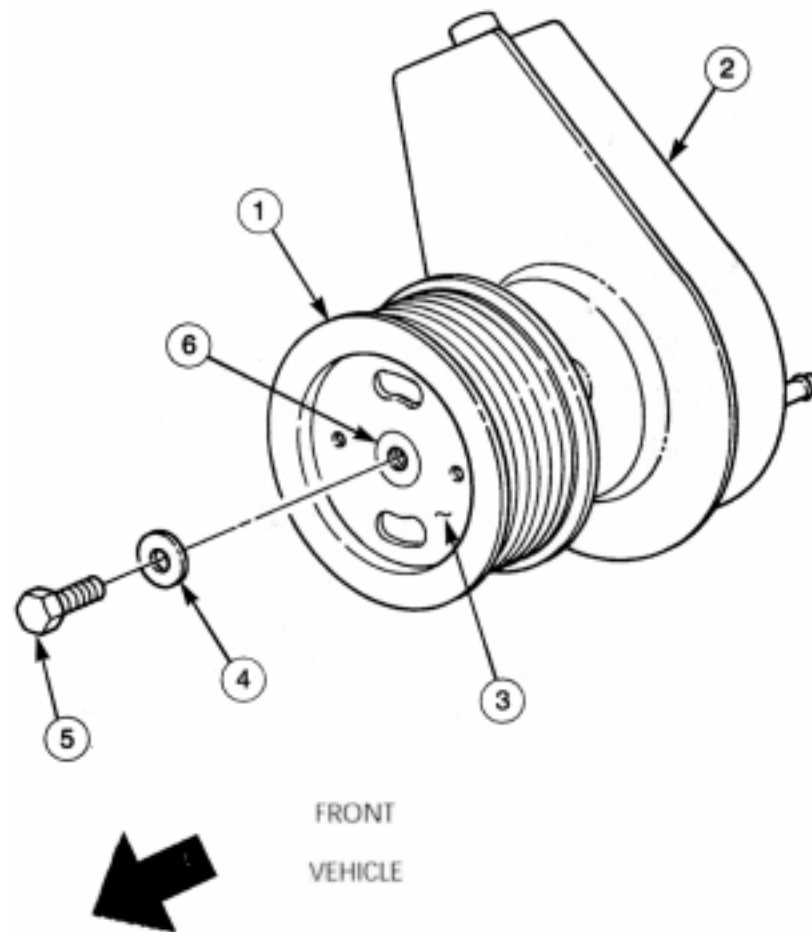

Figure 8
4. Ensure power steering pulley (1) was installed on power steering pump (2) with flat surface (3) facing toward front of vehicle as shown in figure 8. Remove screw (5) and washer (4) and ensure power steering pulley (1) was installed flush with end of shaft (6) as shown in figure 8.
5. If power steering pulley (1) is not flush with end of shaft (6), use pulley installer to move power steering pulley (1) into position. If power steering pulley (1) will not move to flush position, remove pulley (1) and check for scoring on pulley (1) or shaft (6). Replace power steering **pulley (1)** if scored. Clean and repair shaft (6).
6. Using pulley installer, install power steering pump pulley (1) flush on end of shaft (6) and install washer (4) and screw (5) as shown in figure 8. Tighten screw (5) to 37 lb-ft (50 N.m).